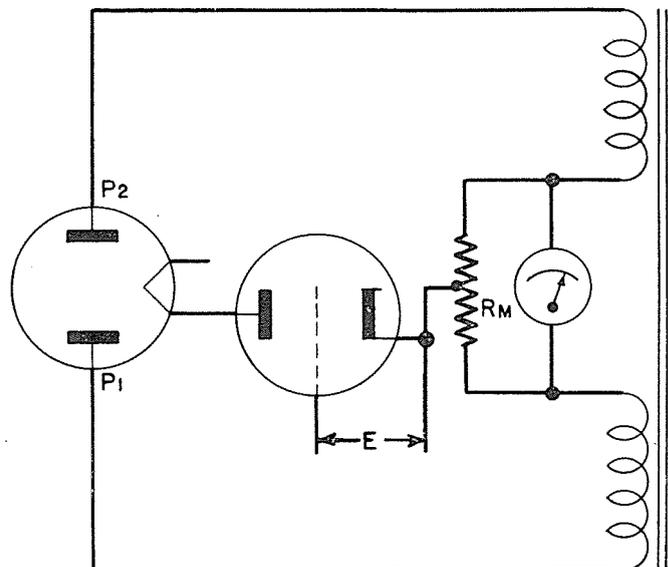

Figure 2-2. Basic Mutual Conductance
b. If the electron tube to be tested is substituted for the fixed load resistance, and a fixed bias E is applied to the tube as in Figure 2-2, the meter will still read zero because an electron tube under steady-state conditions acts like a fixed resistance.